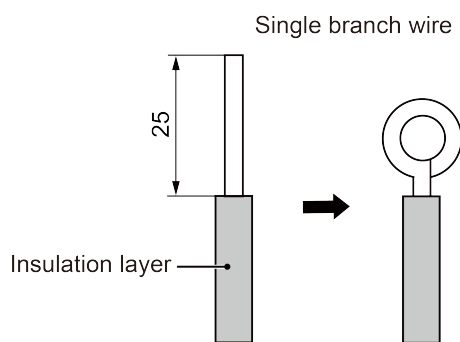

Fig 5.1.1
- (1) The connection of wire (as shown in Fig 5.1.1)